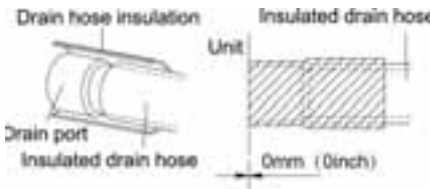

Fig. 4.26
- (9). Be sure to insulate where the drain port and the drain hose are connected (Fig. 4.26).